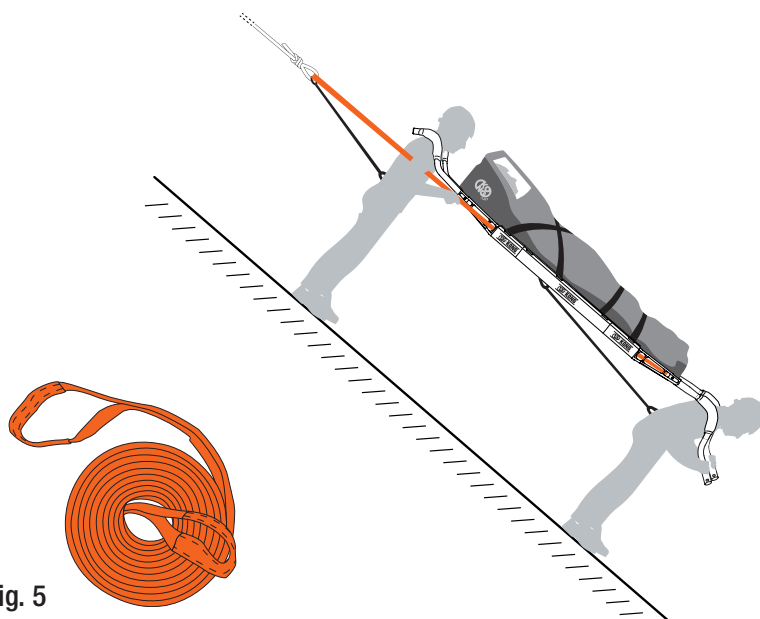

Fig. 5
- c) 871.02 VIRGO belt (figure 5),